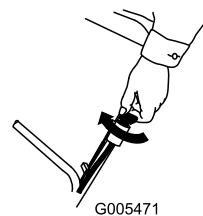
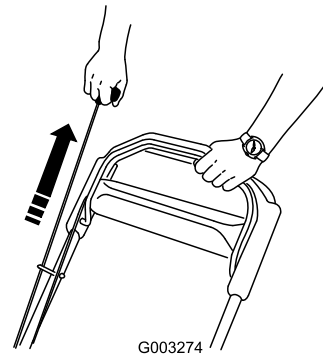

Figure 14
Figure 15
2. Turn the ignition key (electric-start model only) (Figure 14) or pull the recoil start handle (Figure 15).